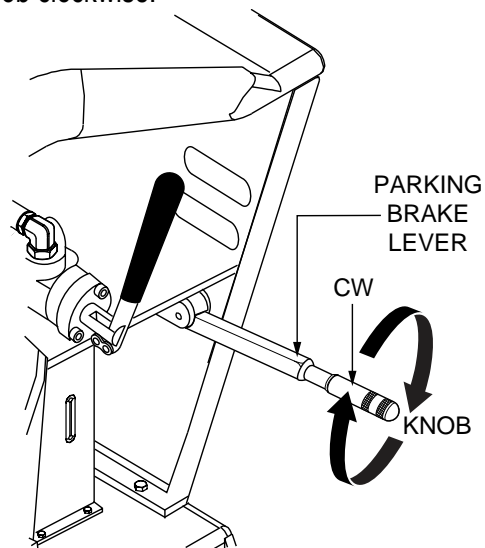

Figure 47. Parking Brake Adjustment
2. Adjustment is provided by a knob (Figure 47) at the end of the parking brake lever. To tighten, turn the knob clockwise.